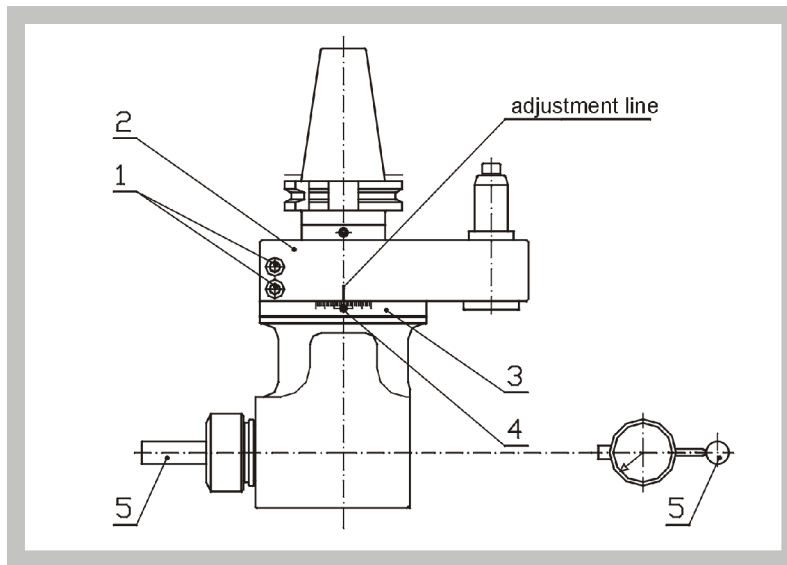

Fig. 18
6.1 Setting of the Angular Position of the Head Body – Models FXI (FXM) (Fig. 18)